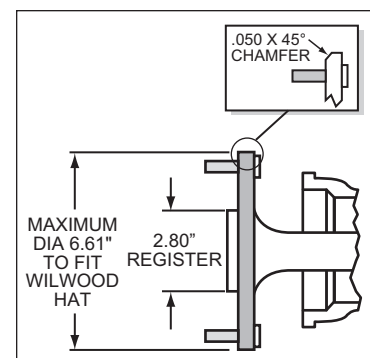

Figure 3. Axle Flange Maximum Dimension
- Axle center register diameter is 2.80", Figure 3. This kit may be supplied with Wilwood's removable center register adapters for rotors with larger 3.06" registers. Other rotors may have smaller 2.80" register and will not require or be supplied with register adapters.
- Maximum axle flange diameter must be no larger than 6.61" w/.050" x 45° chamfer, Figure 3.